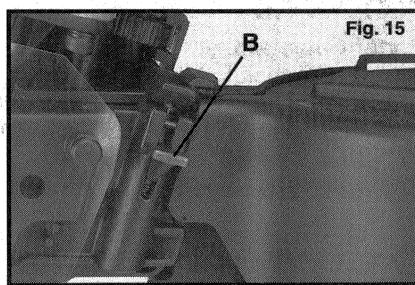
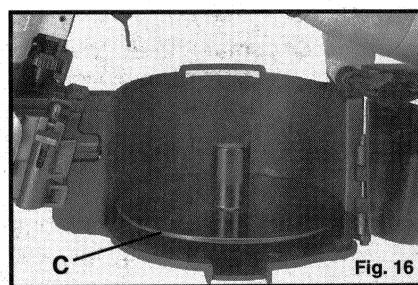
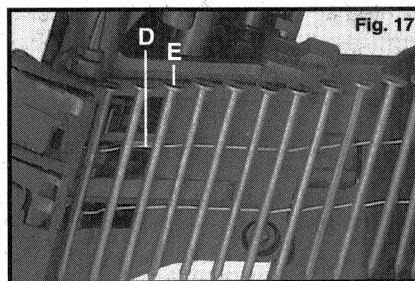

Fig. 15
Fig. 16
Fig. 17
2. Depress latch (B) Fig. 15, open feeder cover and swing open magazine cover (see Fig. 16).
3. Adjust nail support (C) Fig. 16, for desired nail length: the nail support can be lifted and rotated to four different positions that provide support for different length nails as listed on the inside of the magazine nail holder.
4. Remove band from a coil of nails, uncoil approximately 3" of nails, and position coil into magazine nail holder with center of coil around nail support (C) Fig. 16, with the second nail in the feed finger (D) Fig. 17, and nail heads in nail head track (E) Fig. 17.
NOTE: Make sure nail heads remain in nail head track (E) Fig. 17.